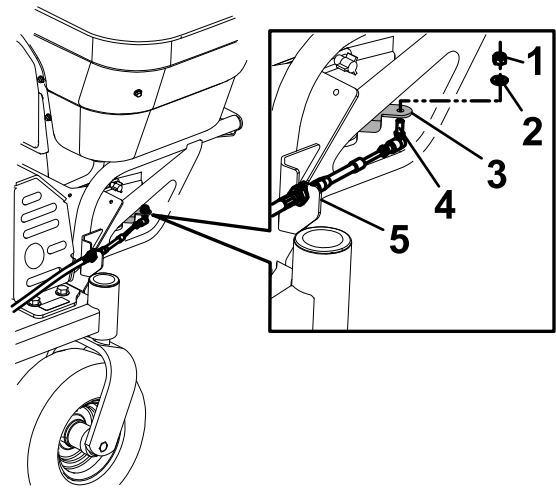

Figure 7
4. Insert the cable end into the hole of the gate arm; secure the cable end with a washer and locknut (1/4 inch) as shown in Figure 7.